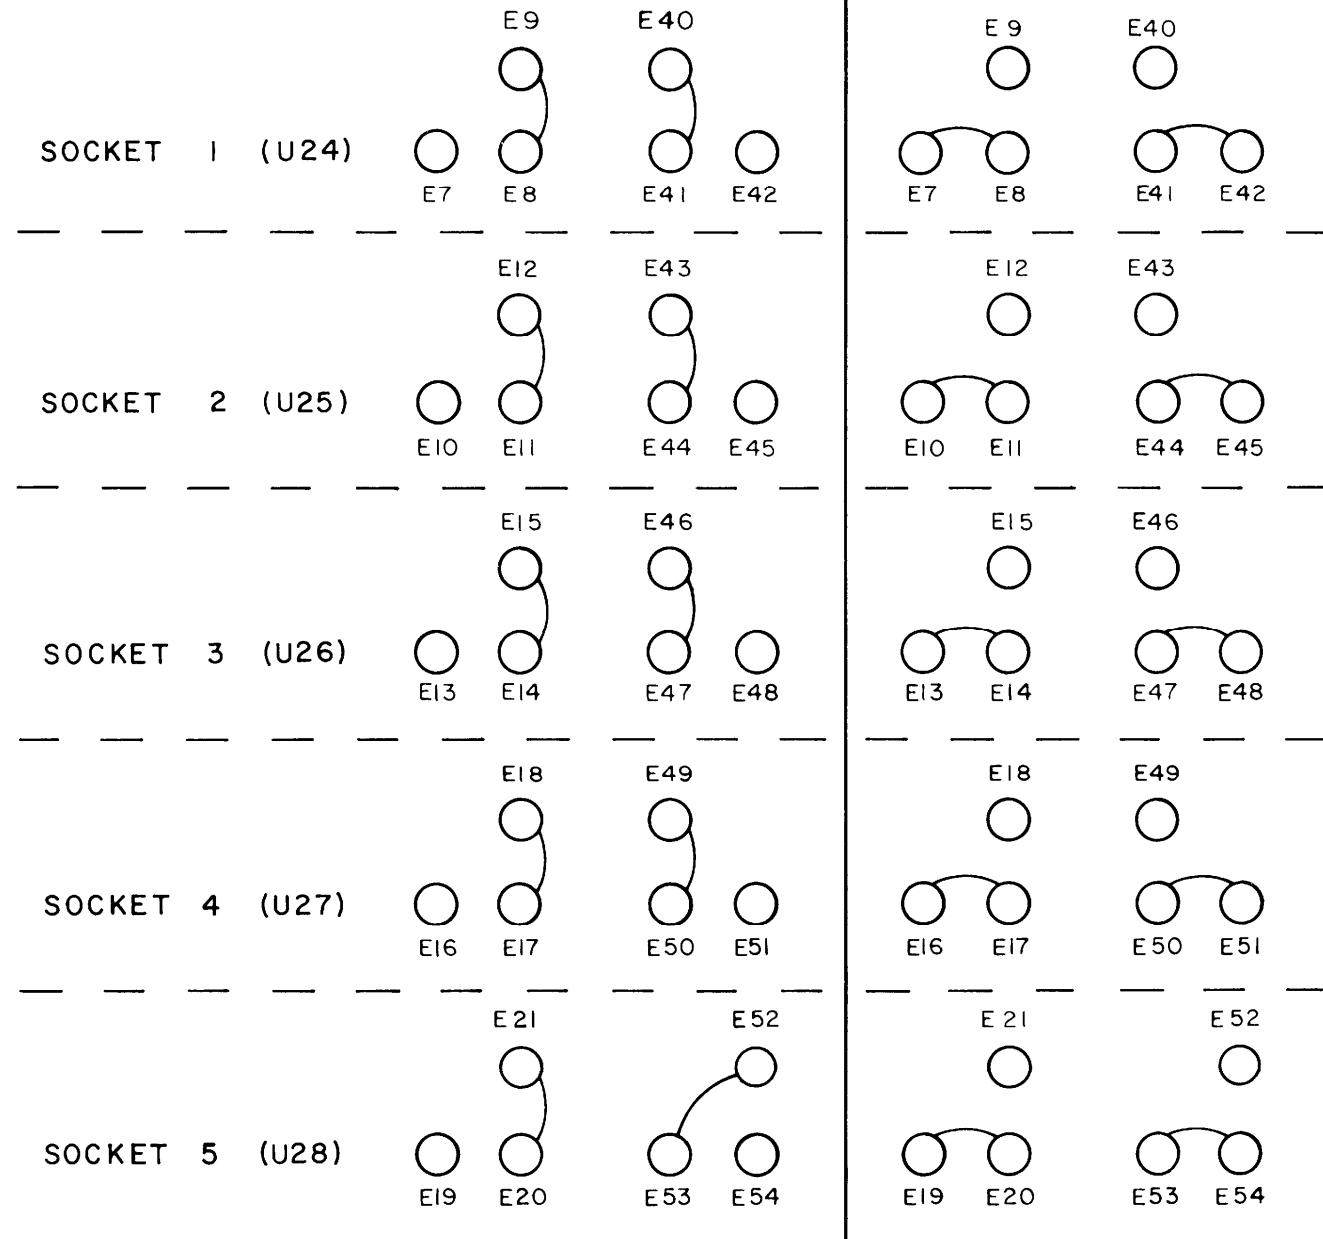

Figure 14
2) To make the 24 pin ROM/PROM Sockets universal to the various memory parts that can be used on this board, two address lines (A_{10} - A_{11}) and two supplies (GND and + 12V) must be jumpered. Figure 14 shows the various jumper connections required to configure each socket.
Figure 14 is divided into 2 columns; the left represents jumpers for all 1K parts, the right shows 2K and 4K options. Figure 15 details the MOS memory chip select options used. The option for each socket (1K or 2-4K) is shown independantly because a mix of memory parts may be required throughout the five sockets.